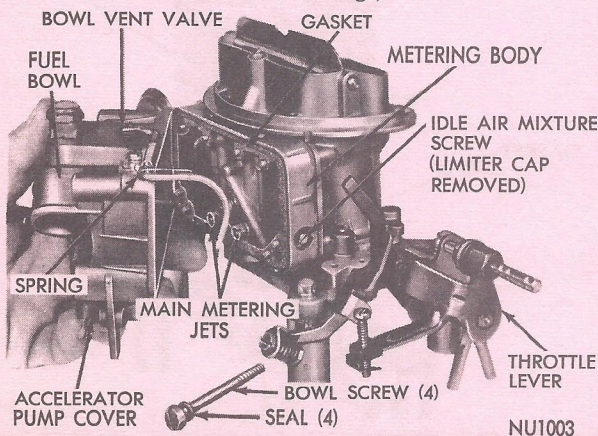

Fig. 4—Removing or Installing Fuel Bowl
(1) Install four elevating legs Tool T109-287S in mounting flange holes in throttle body, or use Carburetor stand C-3886. (These tools are used to protect the throttle valves from damage and to provide a suitable base for working.)
(2) Remove screws and seal washers that attach fuel bowl and metering body to main body. Remove fuel bowl (Fig. 4). Discard screw seal washers.